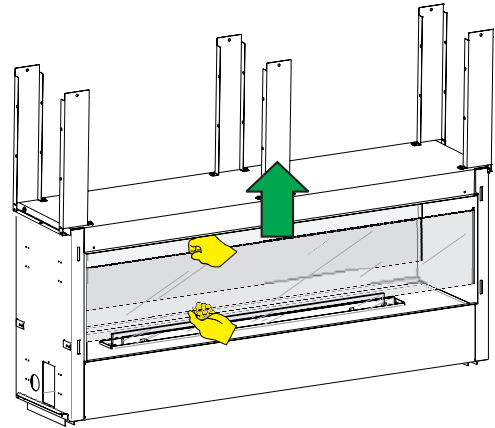

Figure 31
1. Remove the outer glass. **See Figures 31 - 33.**
1. Remove glass front from fireplace by lifting the glass front up, sliding it to the right, and then carefully angle left side out of the slots. See Figures 31 - 33 (VFLL48SP shown).